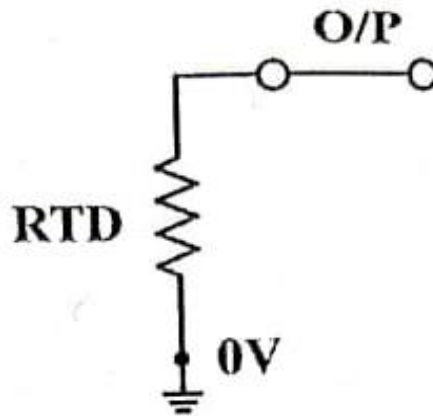

Figure 8(B).2
1. Connect the circuit as shown in Figure 8(B).1.